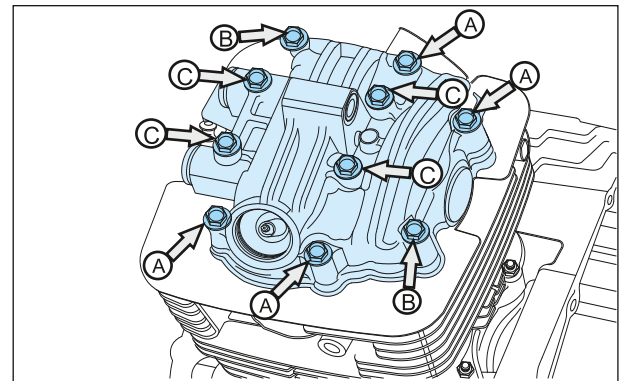

Fig. 3.49
- Loosen and remove 4 nos. M6X35 hexagonal flange bolt from cover cylinder head. (A) (Fig. 3.49)
- Loosen and remove 2 nos. M6X45 hexagonal flange bolt from cover cylinder head.(B) (Fig. 3.49)
- Loosen and remove 4nos. M6X55 hexagonal flange bolt along with copper seal washers. (C) (Fig. 3.49)